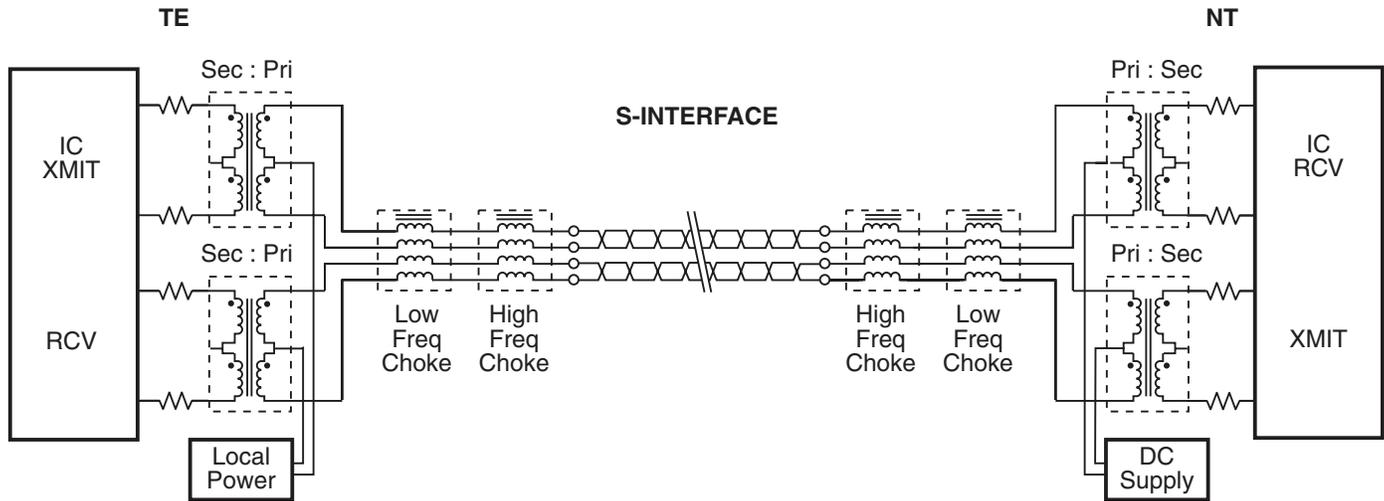

Figure 1. Typical ISDN S-Interface Application Circuit
1. General Information - The S-interface is the standardized four-wire digital telephone access point defined by the CCITT I-series recommendations for the Integrated Services Digital Network. This “basic rate access” accommodates two 64Kpbs “B-channels” for information, one 16Kpbs “D-channel” intended for signaling and control, and 48 Kbps for framing and other purposes, giving a total rate of 192Kbps. The CCITT physical layer recommends that the user network interface be transformer coupled. A typical application circuit is presented in Figure 1.
and international regulations on EMI. They are designed to be used in conjunction with either Pulse’s ISDN S-Interface or T1/CEPT transformers as shown in Figure 1. A high inductance “low frequency” common mode choke is recommended to improve balance, or to correct inherent unbalances of some ISDN S-Interface circuits.